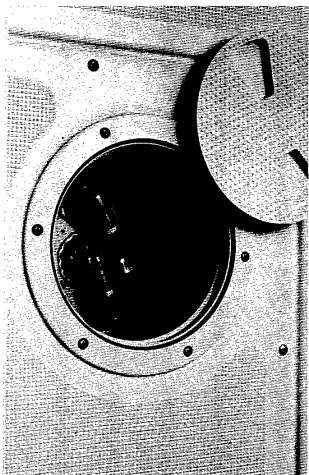

Figure 16
2. Check the fuel compartment for fuel leaks and fumes. Make sure all fuel lines and fittings are tight. See figure 16.